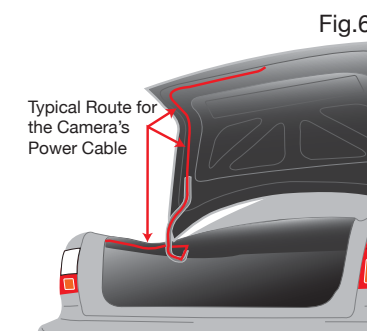

Fig.6
9. Once you have located the reverse light circuit you will have to route the camera's power cable to that location. You must securely fasten the power cable to prevent it from being caught on any vehicle component such as the trunk hinge (Fig.6). Never route the cable on the outside of the vehicle.